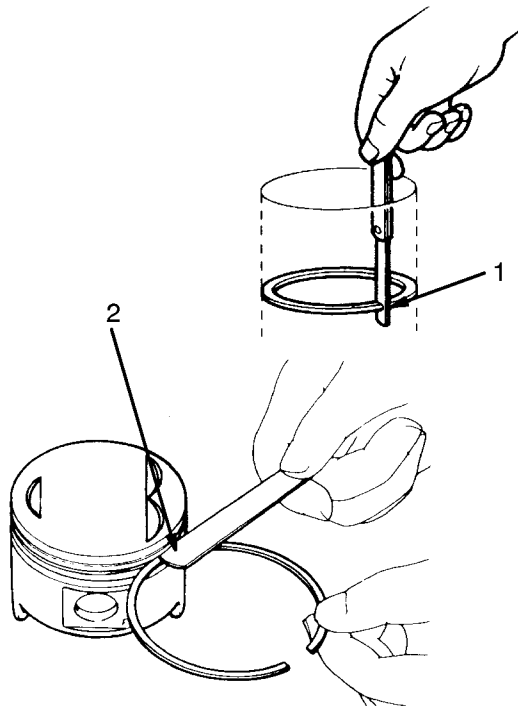

Figure 3-31. Measuring The Piston Rings
2. Measure the clearance between the piston ring and the groove in the piston as shown in Figure 3-31. The correct dimensions are as follows: